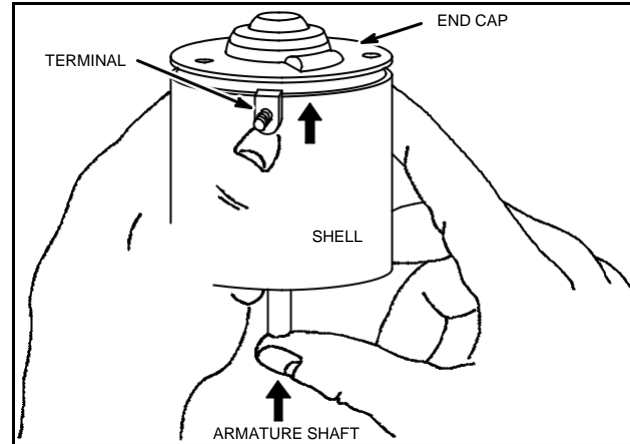

Fig. 656 – REMOVING ARMATURE
7. Push motor armature out through bottom of starter housing, taking care to slide rubber mounted terminal out of motor housing along with end cap, Fig. 656.